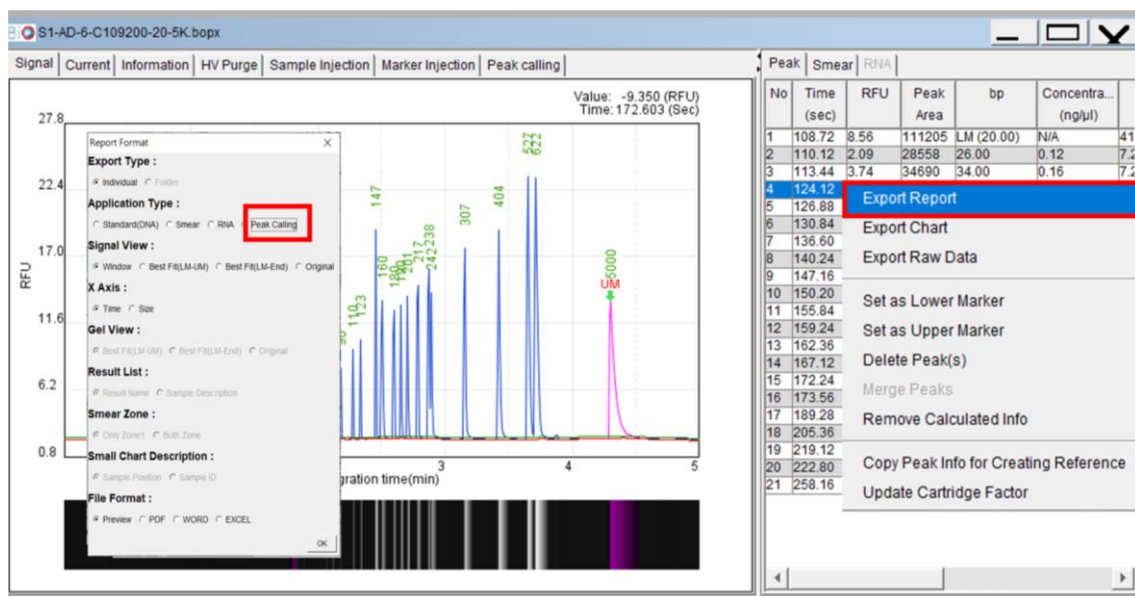

Figure 5-23 Loading Panel and Exporting the Report
Step6. Click **Signal** tab and return to the chart, the software will automatically scan the peak signal. Click **Show Size/Legend** button on the Toolbar, the legend of target peak will be displayed on the window. You can also click the right button to export the report. (Figure 5-23)